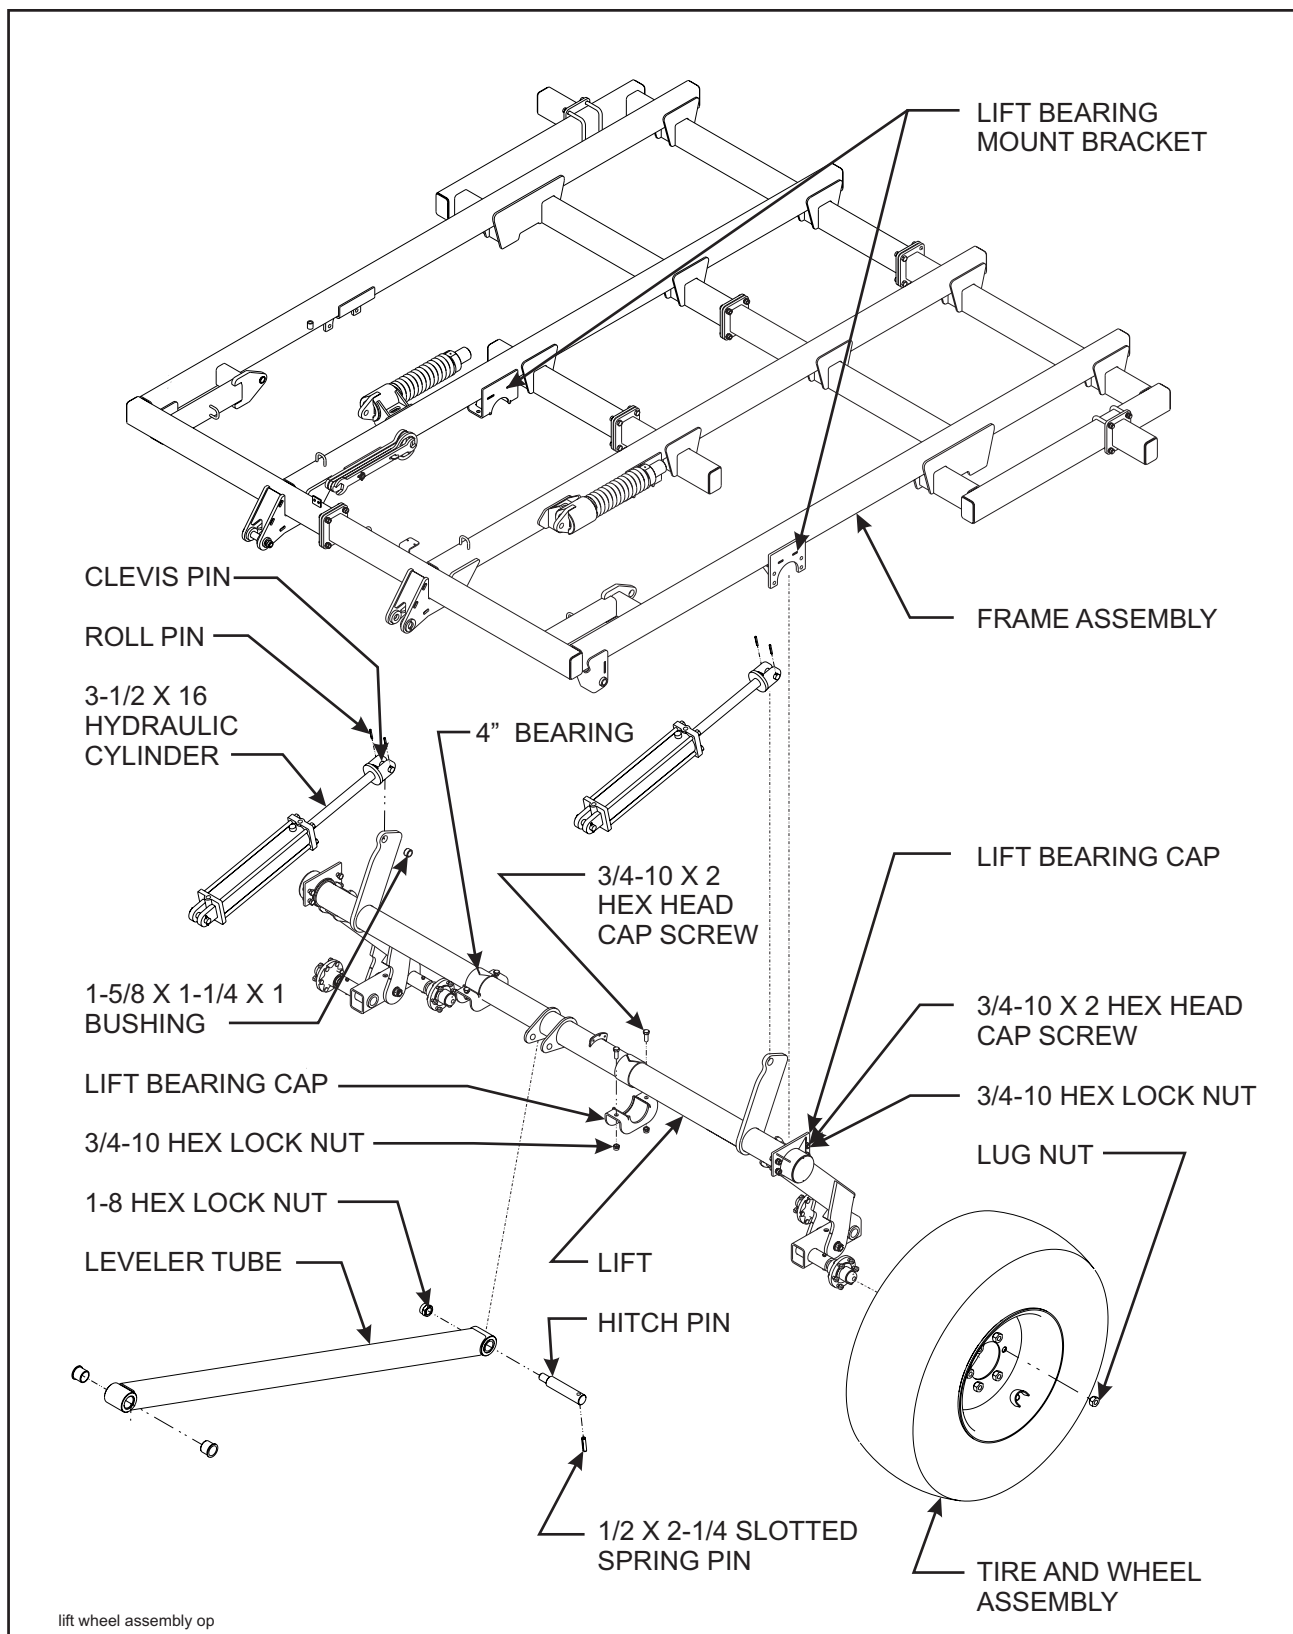

Figure 3-2 Wheel Lift Installation
- 3-3.1** Position the lift under the lift bearing mount brackets on the frame assembly (**See Figure 3-2**).